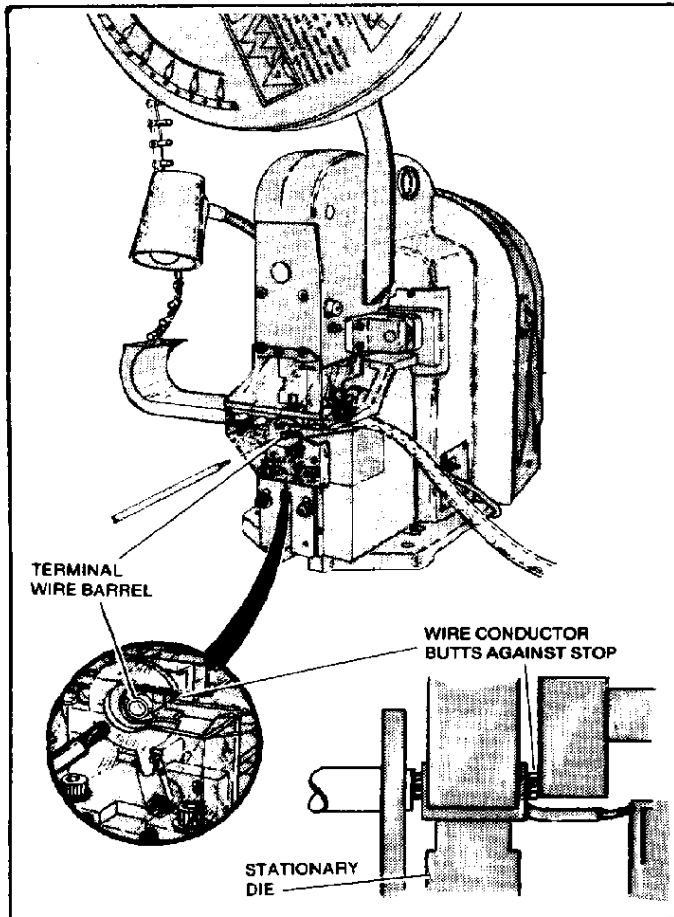

Figure 3
- Insert stripped wire conductor into terminal wire barrel until it butts against the stop, see Figure 3.